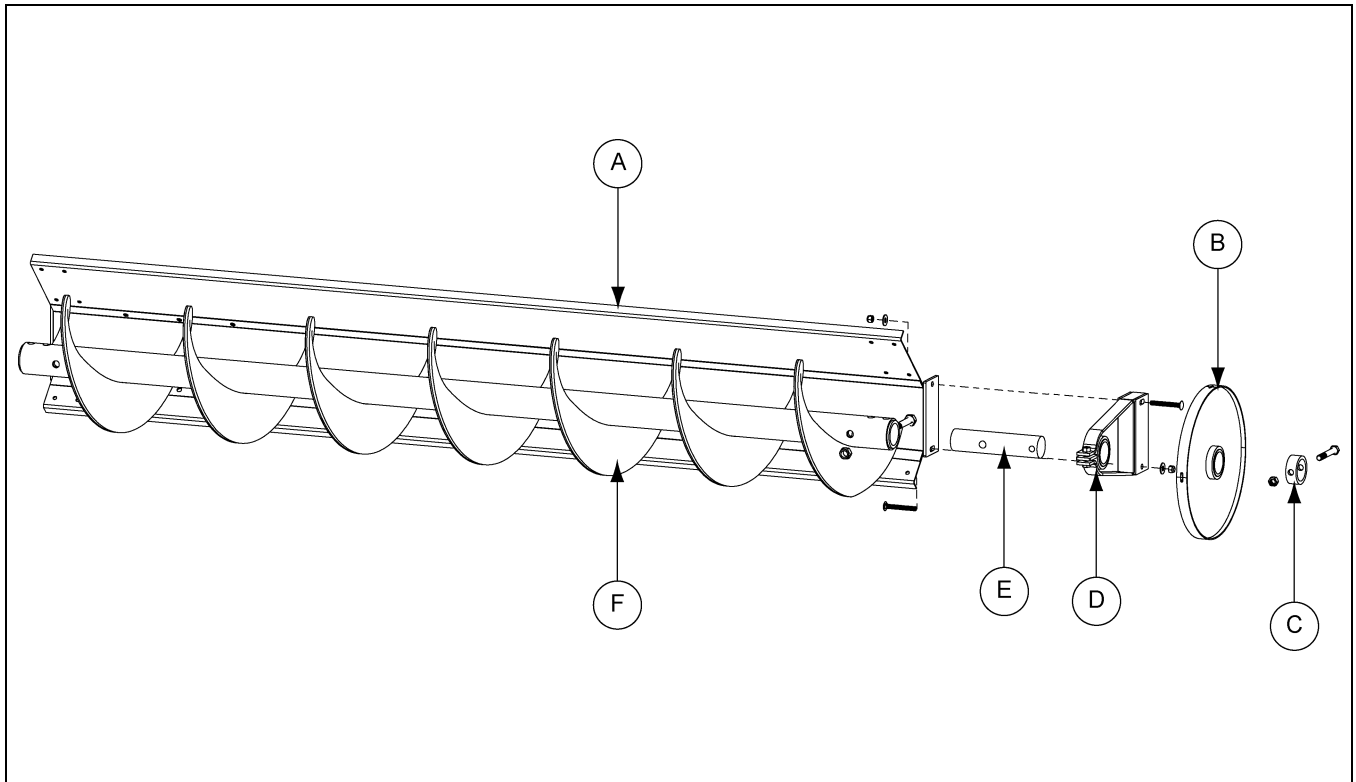

Figure 4L End Wheel Assembly
1. Connect the stub shaft (E) into the sweep flight (F) using a 5/8"-11 x 4" hex head cap screw and 5/8" stover nut.
2. Install the bearing stand assembly (D) onto the stub shaft (E) and bolt it to the sweep shield using two (2) 3/8" x 3" carriage bolts, flat washers and nylock nuts.
3. Install the end wheel (B) and collar (C) onto the end of the stub shaft (E). Pin the collar in place with a 1/2" x 3-1/2" hex head cap screw and prevailing torque lock nut. (*See Figure 4L.*)